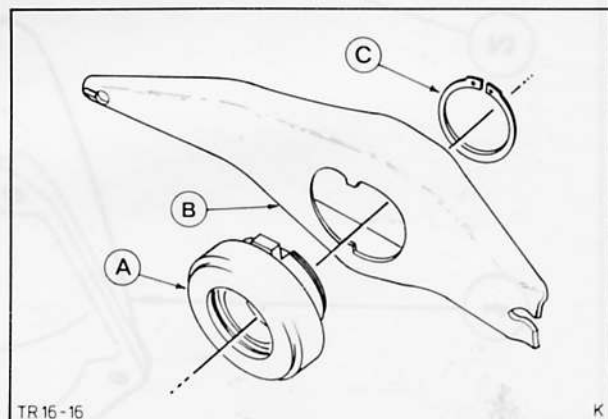

Fig. 63. Fit clutch thrust bearing with release lever
56. Assemble clutch thrust bearing and release lever and secure with circlip, Fig. 63. Then insert release lever in clutch housing.